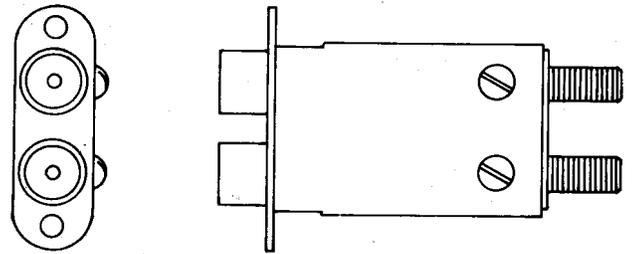

Fig. 24—619-Type Jack
2.18 **619A, B, C, D, and E:** These are double coaxial-type jacks (Fig. 24).